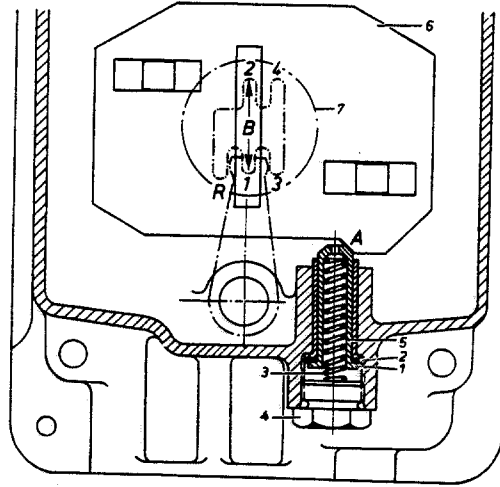

Fig. G 3/43
43. Install latch with adjusting washer for reverse speed stop. Select adjusting washer (2) so that stop (A) of guide plate abuts against the latch when the first or second gear is selected with the selector lever (Fig. G 3/43).